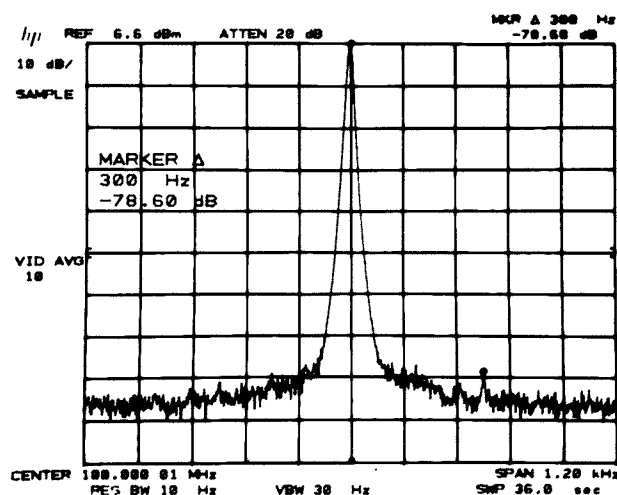

Figure 4-33. Line Related Sidebands Measurement
8. Press MARKER PEAK SEARCH Δ and position the marker at the peaks of the line related sidebands separated from the signal by multiples of the line frequency (e.g., 120, 180, 240, 300, 360, 420, 480, and 540 Hz for a 60 Hz line frequency). The fundamental line frequency cannot be resolved. Refer to Figure 4-33.